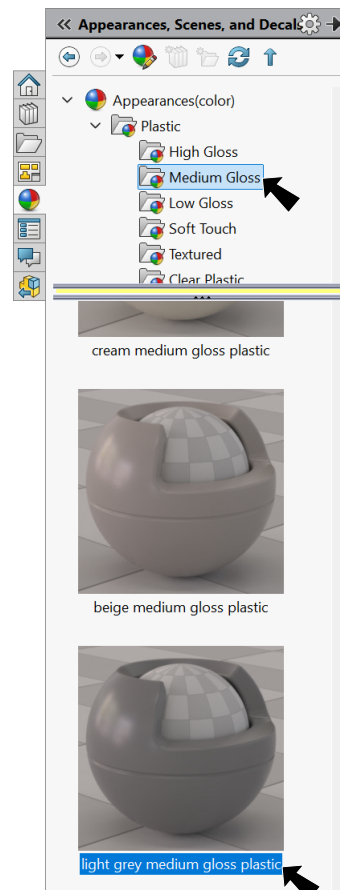

Fig. 34
Step 2. In the Appearances Task Pane expand **Plastic**, click **Medium Gloss** and in the lower pane click **light gray medium gloss plastic**, **Fig. 34**.